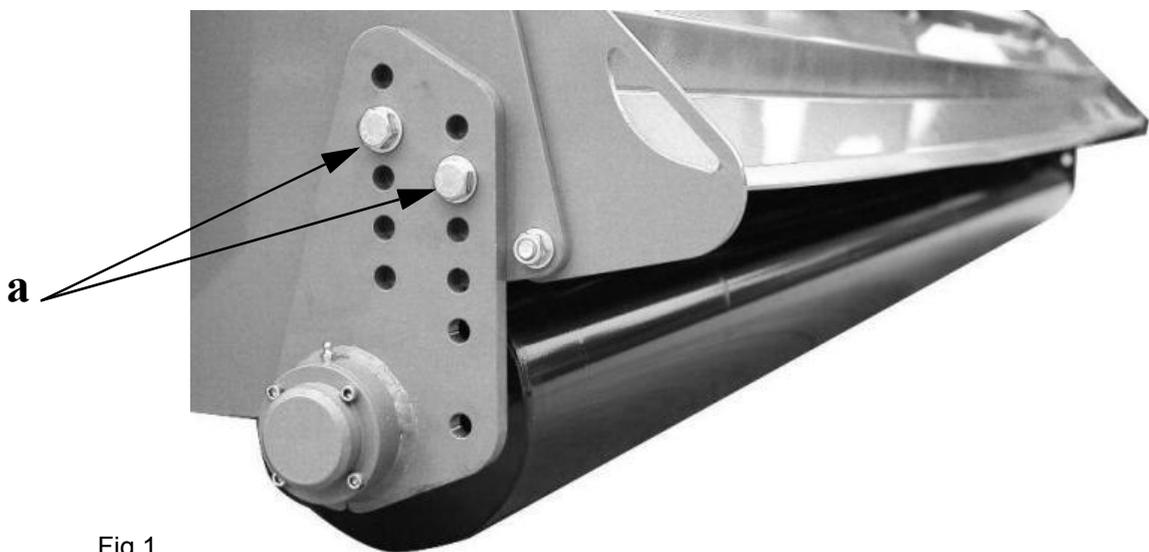

Fig.1
- Connect the two drawbar of the tractor to the lower plates of the mower by using two pins and two hair pins to lock the pins in place (fig. 1).
- Connect the 3rd point of the tractor to the high plates of the mower by using a pin and an hair pin (fig. 1).
Rear roller adjustment is carried out by regulating the two roller support plates as follows (fig. 1):